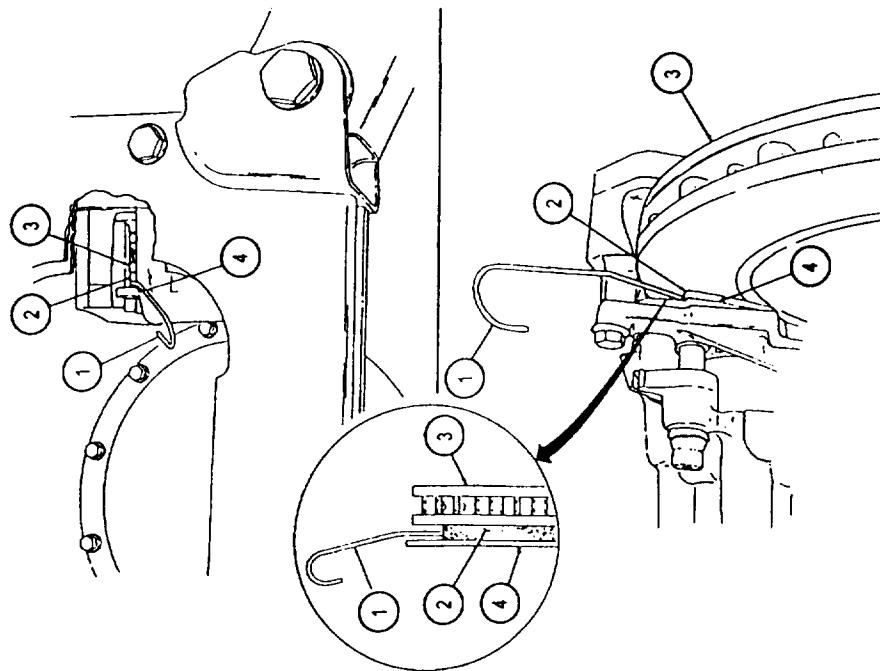

Figure 2
1. Using brake pad gauge (1), check wear on inner and outer pads (2) by placing gauge (1) between rotor (3) and backing plate (4) as shown in figure 2.
2. If brake pad gauge (1) will not fit between rotor (3) and backing plate (4) as shown in figure 2, replace brake pads (refer to TM 9-2320-280-20).